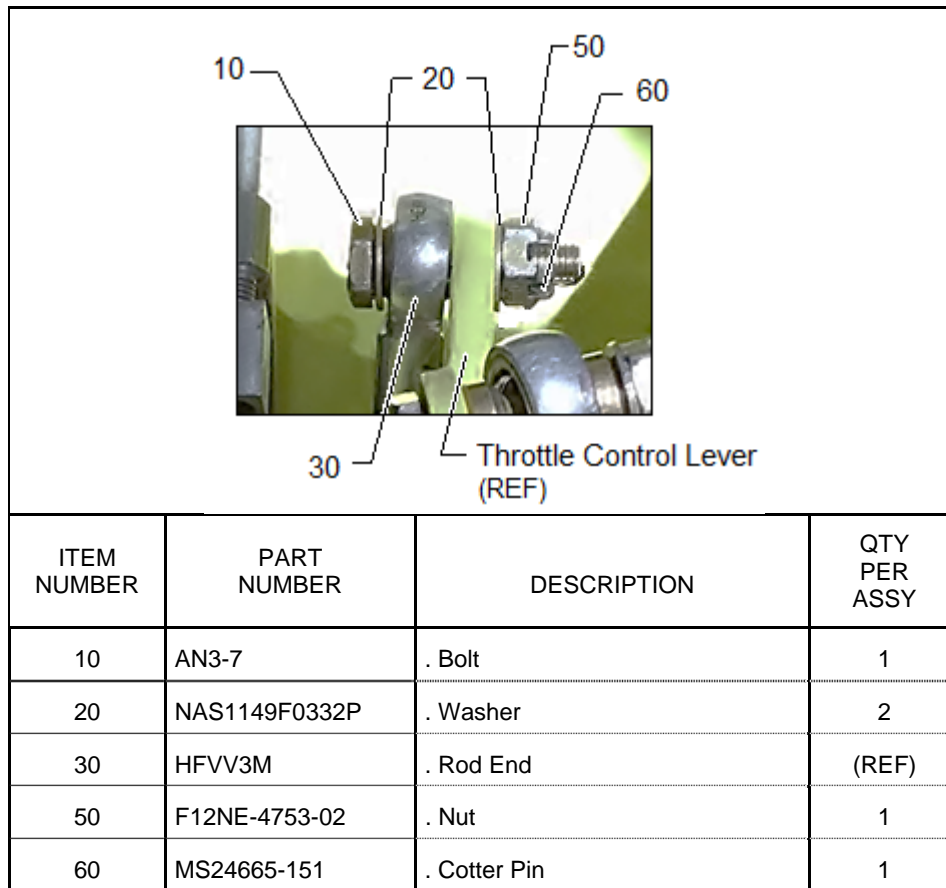

Figure 2. Throttle Cable Installation
6.2 Throttle Cable Assembly (Figure 2)
Refer to Figure 2 for the parts listing. (This information is equivalent to F-28/280 Series Illustrated Parts Catalog Figure 3-14.)
6.2.1 Reinstall the throttle cable assembly to the throttle control lever with new hardware in accordance with Figure 2 (torque 15-25 in-lbs/1.7-2.8 Nm).